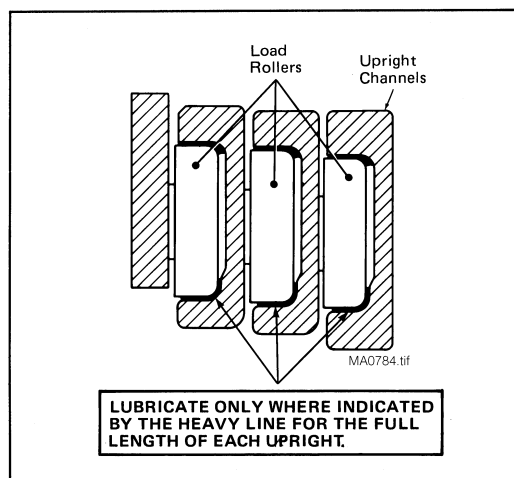

Figure 45. Rail Lubrication.
*Lubricate the inner upright rails with chassis lube or Kendall SR-12X . See Figure 45.